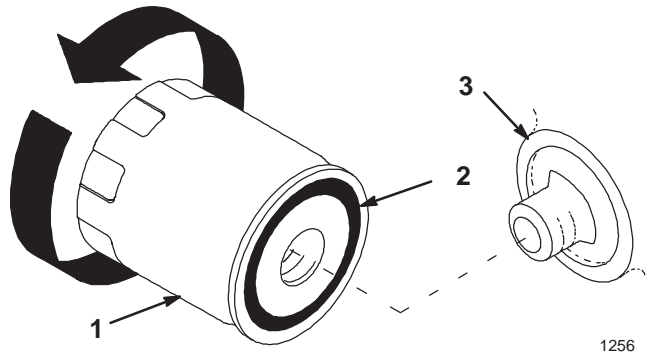

Figure 49
1. Remove the transaxle filter (Fig. 49).
2. Wipe the filter adapter gasket surface (Fig. 49).
3. Apply a thin coat of new oil to the rubber gasket on the replacement filter (Fig. 49).
4. Install the replacement transaxle filter to the filter adapter. Turn the filter clockwise until the rubber gasket contacts the filter adapter, then tighten the filter an additional 3/4 turn (Fig. 49).